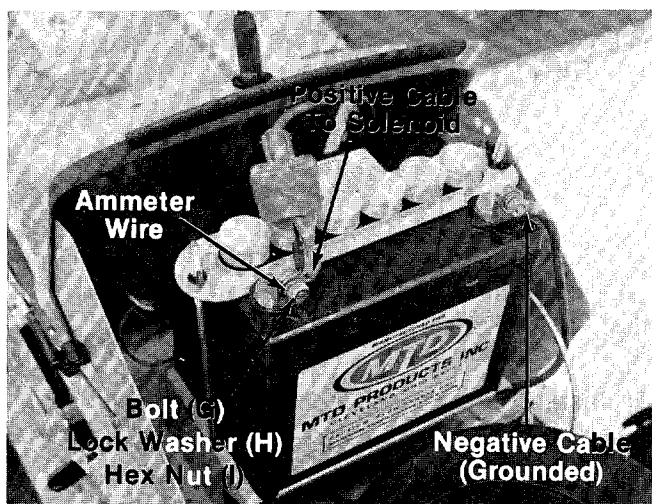

FIGURE 8.
- D. Attach the free end of the positive cable and the small wire from the ammeter to the positive battery terminal with bolt (G), washer (H) and nut (I). The battery terminal is marked +.
- E. Attach the free end of the negative cable to the negative terminal with bolt (E), washer (F) and nut (G). Battery terminal is marked " - ". See figure 8.